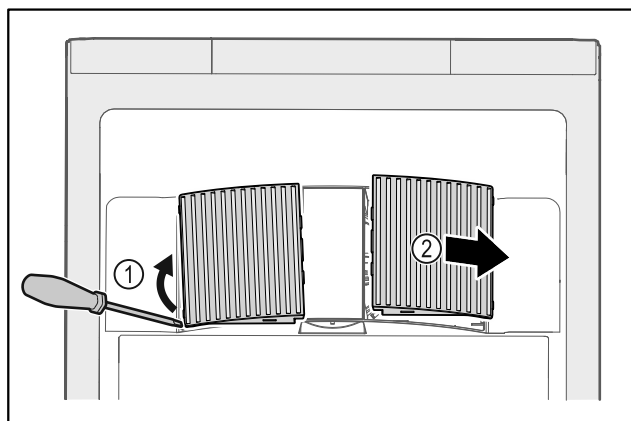

Fig. 175
- Carefully lever out fan covers from the side Fig. 175 (1) and remove towards the front Fig. 175 (2).